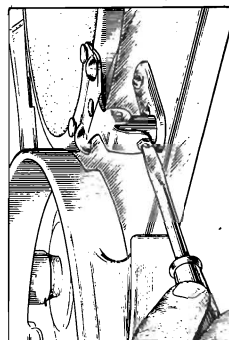

Figure 10—Record transfer lever adjustment
- (c) Improper height of record transfer lever. The small plate on top of the motor board at the left side of the turntable should be so adjusted that it will depress approximately  $\frac{1}{16}$ " when the magazine swings over the turntable. When this adjustment is made correctly, the transfer lever will engage the bottom record in the magazine as the latter is swinging back into the playing position. A small adjusting screw and lock nut are provided for this adjustment. See Figure 10.